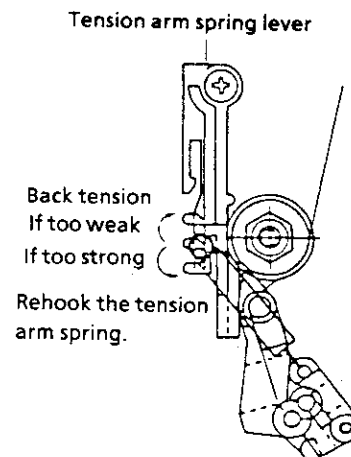

Figure. 2-8
- 1) If the measured value is out of specification, adjust the position of the tension arm spring as shown in Fig.2-8: If the back tension is high, hang the tension arm spring at near side and if it is low, hang it to far side.